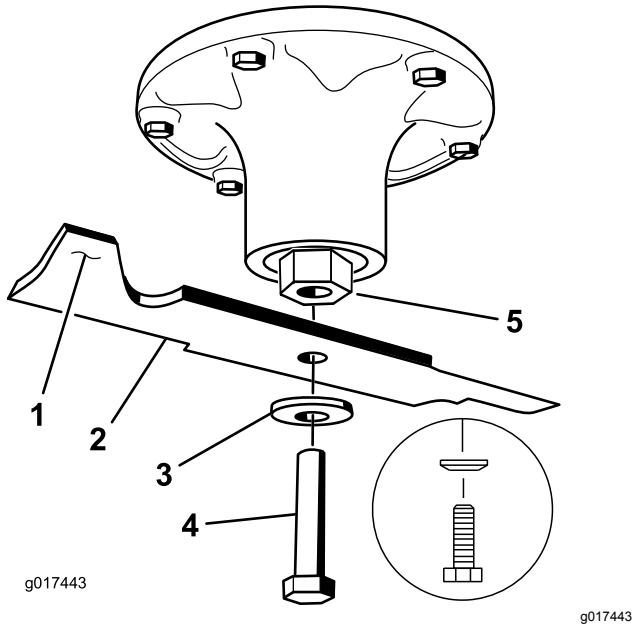
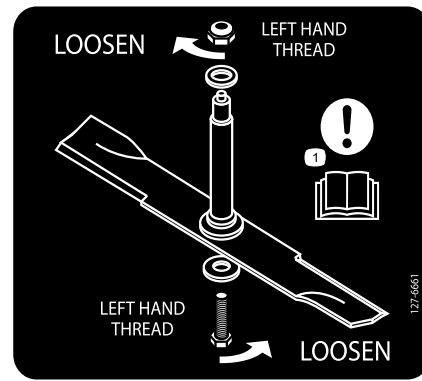

Figure 116
Figure 117
2. Remove the left and center blade bolt, curved washer, and blade from the spindle shaft (Figure 116).
- Remove the right blade bolt (left-hand threaded bolt), curved washer, and blade from the spindle shaft (Figure 117).
Note: Note the blade type and where each blade is installed. See Figure 117 for the correct position.
Important: The right blade on this mower deck is counter-rotating and uses a left-hand threaded blade bolt. Use Figure 117 for the correct placement of the mower blades.
- Install the left and center blades, curved washers, and blade bolts to the spindle shafts (Figure 116 and Figure 117).
Note: Ensure the curved-washer cone is installed toward the bolt head (Figure 116).
- Install the right blade, curved washer, and blade bolt (left-hand threaded bolt) to the spindle shaft (Figure 116 and Figure 117).
- Torque the blade bolts to 115 to 150 N·m (85 to 110 ft-lb); refer to Figure 117.